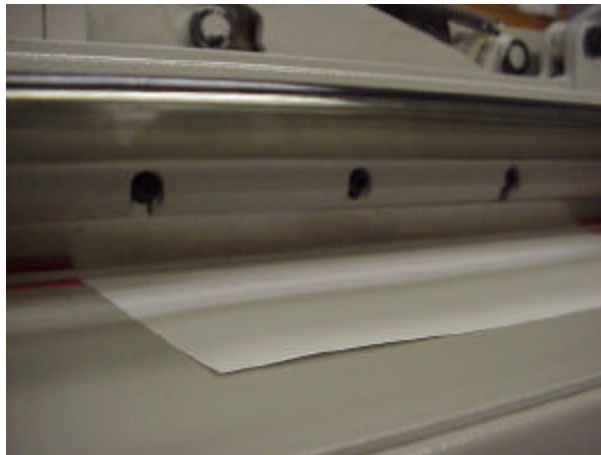

Fig. 8
6. Pick up the new Knife **BY THE HANDLES** and insert the Knife back up into the Carrier. If the Knife will not go all the way up, it may be necessary to loosen the Handles a couple of threads so the Knife will slide into the Knife Carrier evenly. Once the Knife is all the way up into the Carrier, you can turn the Handles tightly (Clockwise) to hold the Knife in place. Replace the three Screws and make sure they are tight so the Knife won't drop down. At this point, remove the Handles and replace with the two remaining Screws, making sure they are tight. Lay a sheet of 11" X 17", or two 8-1/2" X 11" sheets of paper over the unused side of the Cut Stick. Use Clamp Handle on the machine to clamp the paper down and trip the Safety Latch. Bring the Knife Carrier down slowly, while watching and making sure that when the Knife is at it's lowest point, there is clearance between the Knife edge and the paper. See Figure 8.